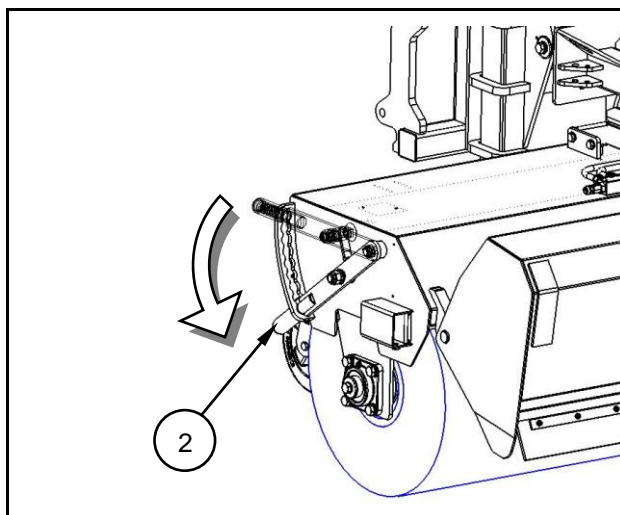

Fig. 6.2
- Set the adjustment-lever system (2) on both sides to the lowest position (Fig. 6.2).